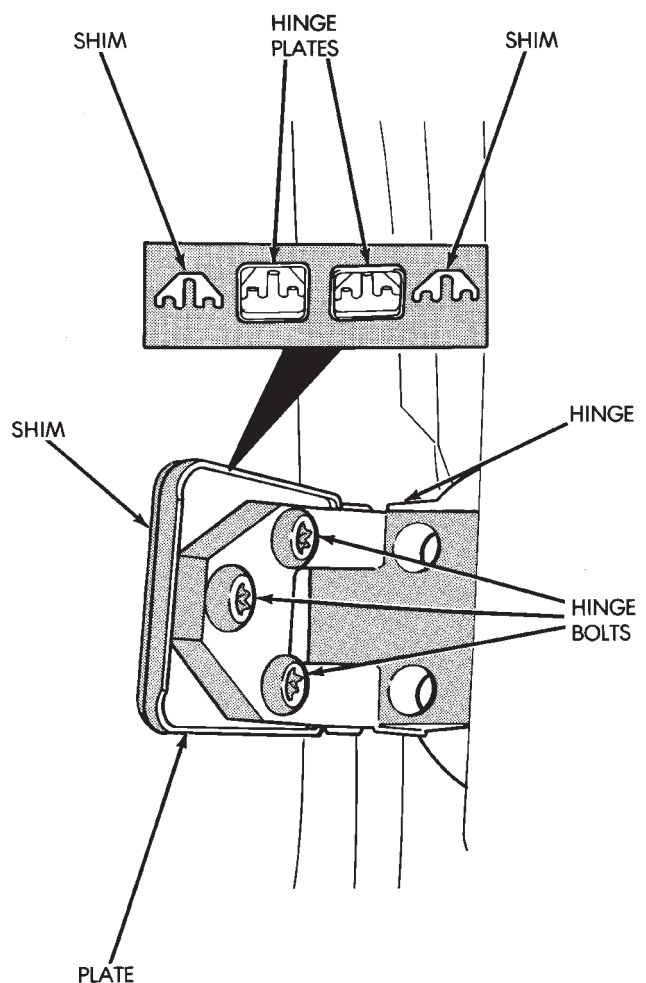

Fig. 30 Door Hinges, Bolts, Plates and Shims
(3) Remove the door hinge bolts, plates and shims (Fig. 30). Remove the door from the vehicle.
(4) Identify and retain the door hinge plates and the shims for correct installation (Fig. 30).
- (1) If not loosened, loosen the door hinge bolts (Fig. 30).
- (2) Add or remove shims as necessary to obtain the best door fit.
- (3) Tighten door hinge bolts to 35 N·m (26 ft-lbs) torque after adjustment is completed.
- (4) Apply general purpose sealant around the door hinges/door face mating area.